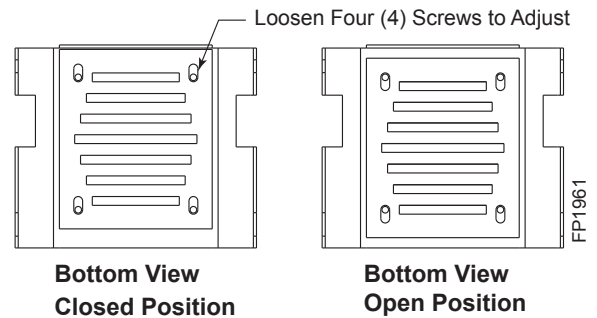

Figure 17 -
NOTE: For propane (LP) units the baffle assembly is completely removed for venting under 20 ft. (6 m). For venting 20 ft. and above, the baffle assembly is to be used with only one (1) baffle plate installed. Figure 17